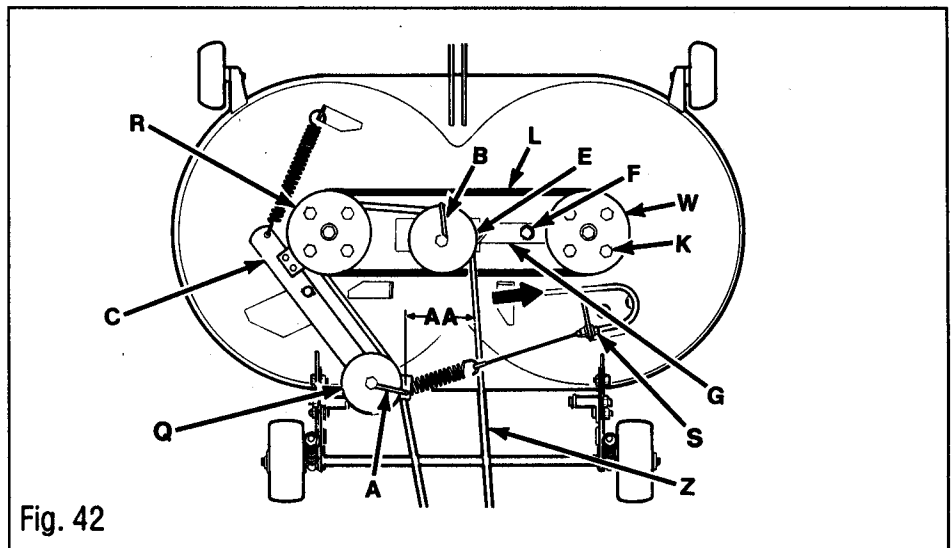
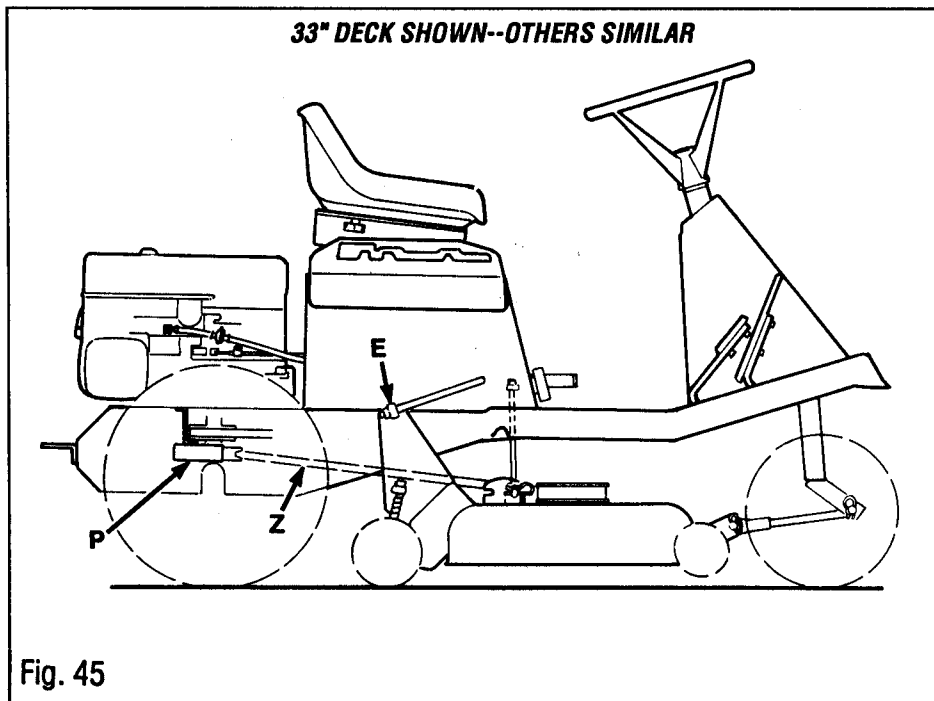
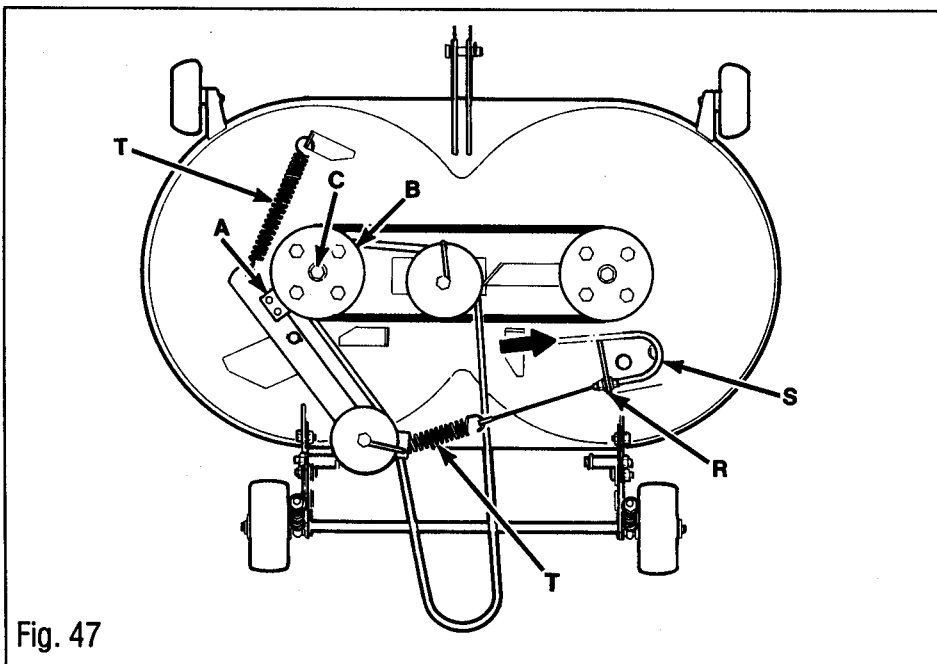
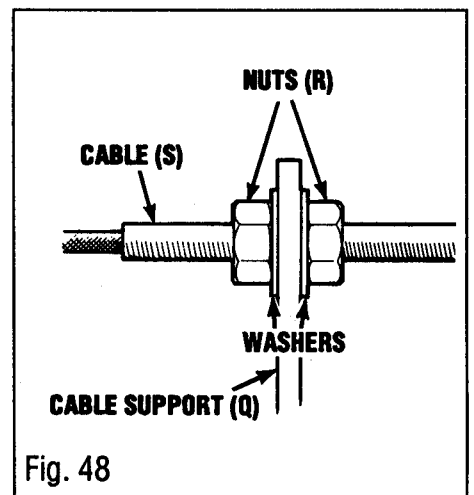

Fig. 42
Fig. 45
Fig. 47
Fig. 48
7. Re-tighten belt guide (H) $1/16"$ (.15 cm) away from drive belt.
8. With the mower in the highest setting, check clearance between belt at point (AA). If there is not at least a 1" (2.5 cm) gap, move mower ahead by adjusting pivot location on lift arms (E, Fig. 45). It may be necessary to adjust rod (A, Fig. 45) to level mower.
9. With mower blade drive engaged, belt guide (Y) should not contact drive belt.
1. Loosen belt guides (A & B Fig. 42 and (P, Fig. 45).
2. Rotate idler arm (C) away from pulley (R). Replace belt (Z) with new belt.
3. Route belt between idler (Q) and belt guide (A). Place guide (A) in approximate position shown and secure.
4. Place new belt into groove of stationary idler (E) and secure belt guide (B) in rear of slot as shown.
5. Place new belt into groove of engine pulley and assemble belt guide (P, Fig. 45) as far forward as possible. Re-tighten guide (P). Check clearance between guide (P) and bolt heads on differential. A gap of $1/8"$ should exist
7. With the mower in the highest setting, check clearance between belt at point (AA, Fig. 44) If there is not at least a 1" (2.5 cm) gap, move mower ahead by adjusting pivot location on lift arms (E Fig. 45).
4. Secure belt guide (S) and idler in rear of slot as shown.
6. Position guide (J) through hole in bottom of plate and secure in place.
7. Place new belt into groove of engine pulley and slide belt guide (P, Fig. 45) as far forward as possible. Re-tighten guide (P). It may be necessary to rotate differential to assemble belt. After assembly, check clearance between guide (P) and bolt heads of differential. A gap of 1/8" should exist.
9. With the mower in the highest setting, check clearance between belt at point (AA). If there is not at least a 1" (2.5 cm) gap, relocate idler (X) as far ahead as possible. If more adjustment is needed, move mower ahead by adjusting pivot location on lift arms (E, Fig. 45).
28" Decks Adjust the mower drive cable end (S, Fig. 42 and S, Fig. 48 on the following page) or move mower back by adjusting pivot location on lift arms (E, Fig. 45). Repeat this test until belt does not move. Check mower leveling after adjusting pivot (E).
1. Loosen screw (F, Fig. 42) and rotate arm (G) 90° to the rear.
2. Loosen four mounting bolts (K) securing pulley (W).
3. Slide pulley (W) toward the center.
1. Loosen belt guides (J & S, Fig. 44 and P, Fig. 45).
33" & 36" Decks Adjust the mower drive cable end (S, Figs. 42 & 44 and S, Fig. 48 on the following page) or relocate the adjustable pulley (B, Fig. 42 or X, Fig. 44) within its slot on the idler support bracket. If further adjustment is necessary, move mower ahead by adjusting pivot location on lift arms (E, Fig. 45). Repeat this test until belt does not move. Check mower leveling after adjusting pivots (E).
2. If brake pad (A, Fig. 47) does not squarely contact both top and bottom surfaces of pulley (B), re-position pulley (B) as follows:
3. Adjust cable (S, Figs. 48 & 49) at nuts (R, Fig. 47 & 48) so there is a slight slack in spring (T, Fig. 47). *WHEN ADJUSTED, SPRING (T) SHOULD NOT BE UNDER TENSION*
4. If blade still does not stop within 5 seconds after the mower drive has been disengaged, replace brake pad (A, Fig. 47).
3. Adjust cable (S, Figs. 48 & 49) at nuts (R, Fig. 48) so there is a slight slack in spring (T, Fig. 44). *WHEN ADJUSTED, SPRING (T) SHOULD NOT BE UNDER TENSION*